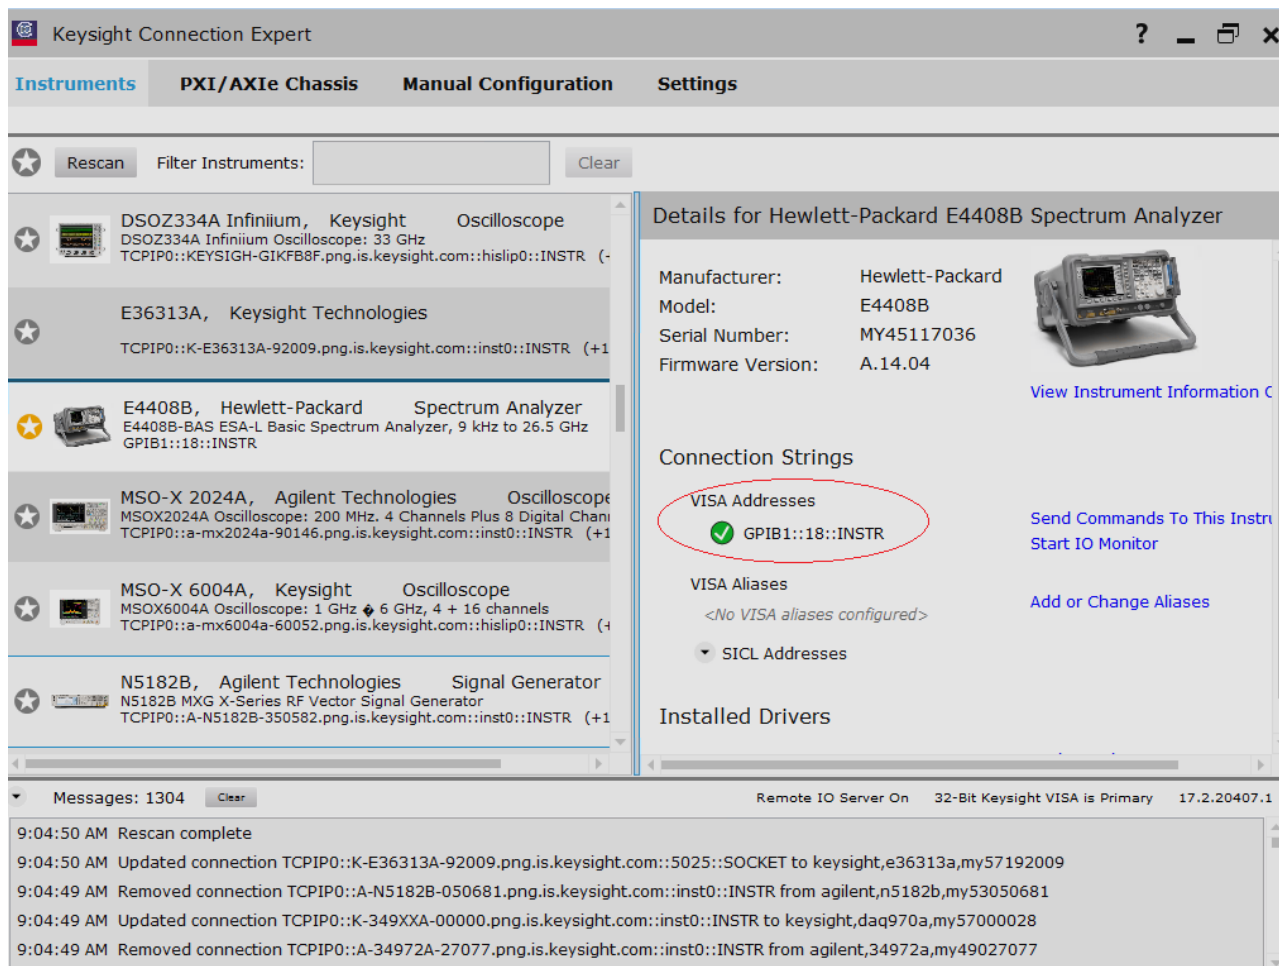

Figure 24 Checking VISA/SICL Address for Spectrum Analyzer in the Keysight Connection Expert
- 11 A pop-up box appears where you can enter either the VISA/SICL address or the IP address. Enter the information and click the **Verify** button, followed by the **Done** button to close this box. The VISA/SICL address or the IP address can be obtained from the Keysight Connection Expert application, as shown in Figure 24.